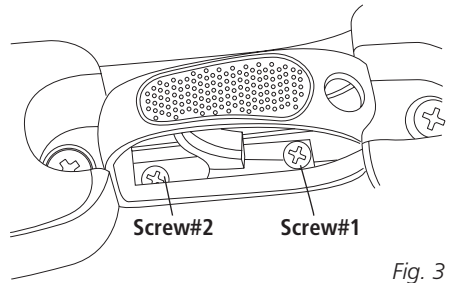

Fig. 3
- For less travel of the trigger prior to discharge; turn clockwise the adjustment screw#1. (Fig.3)
- For more travel of the trigger prior to discharge; turn counter-clockwise the adjustment screw#1. (Fig.3)
- For less trigger pull force of the trigger prior to discharge; turn clockwise the adjustment screw#2. (Fig.3)
- For more trigger pull force of the trigger prior to discharge; turn counter-clockwise the adjustment screw#2. (Fig.3)